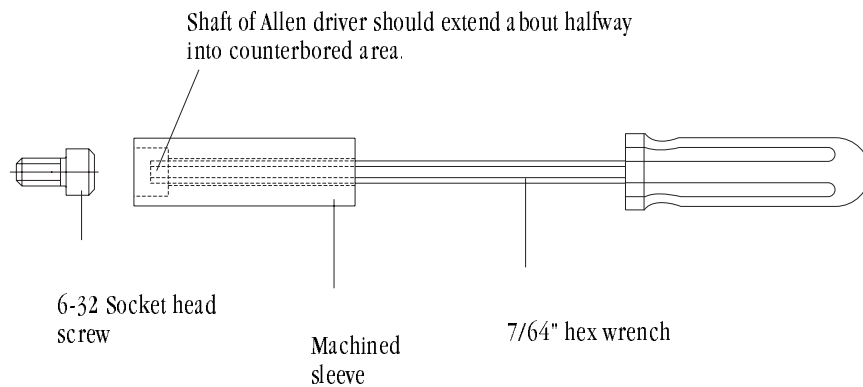

Figure 6-2. Detail of the sleeve on the Allen driver
Step 2: Now you are ready to remove the screws that secure the crucible to the crucible mounting flange. This procedure involves using the special Allen tool provided with the source, which consists of a standard 7/64" Allen driver with a machined sleeve fitted over the shaft (see Figures 6-2 and 6-3). If you are not experienced with this tool, see the detailed instructions in steps 3 and 4 under the heading "Removing the Crucible" in section 3.5. If you are proficient in the use of this tool, proceed directly to step 3 of this procedure.